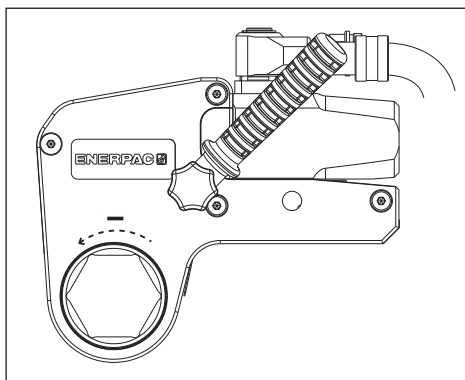

Fig. 11
4.3.3 Loosening a Nut or Bolt (Fig. 11 and 12)
- Position the reaction foot (17) against a suitable reaction point (18). The reaction point will counteract the force caused by operating the tool.